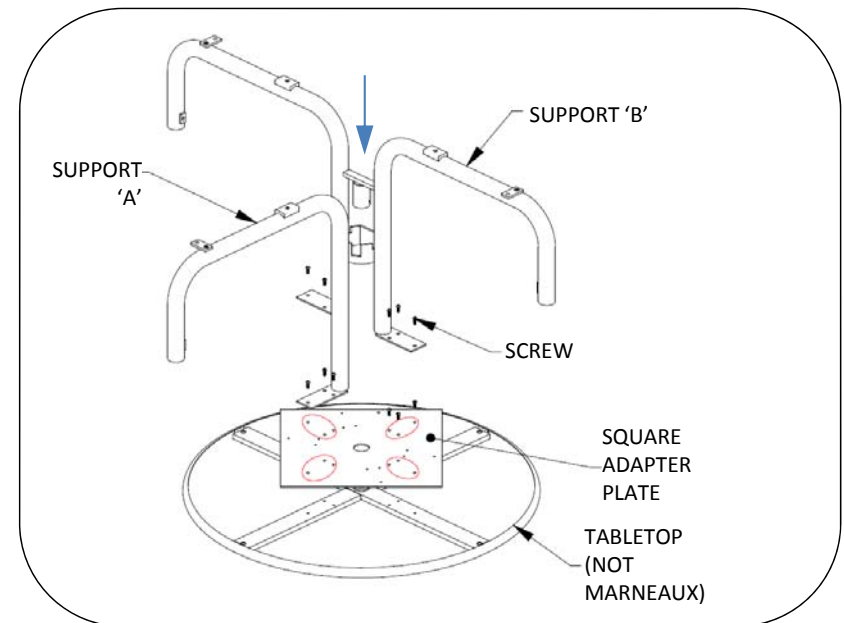
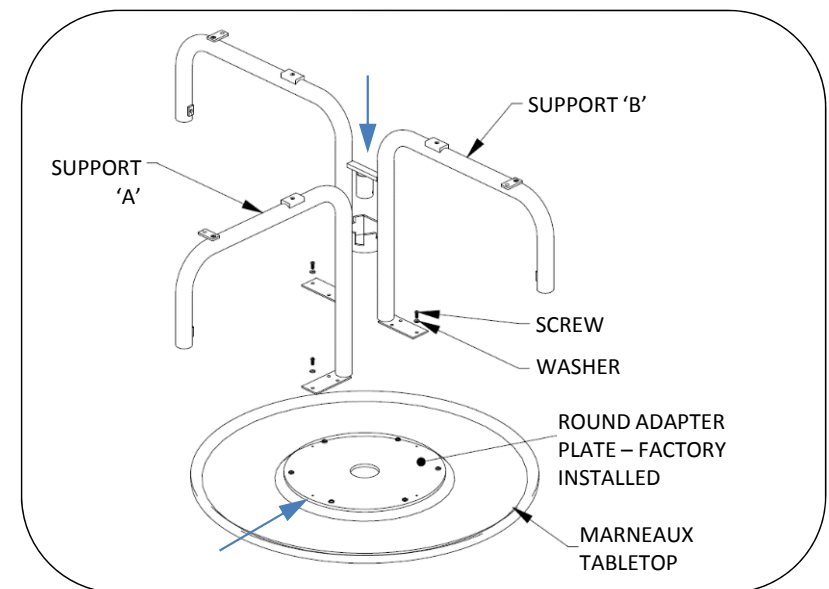

Fig. 1 – 3 Seat table to support install (not Marneaux)
Fig. 2 – 3 Seat table to support install (Marneaux tabletop)
4. Place table support “A” (has 5” ring at center) upside down on table top and align holes, see Fig 1, 3, 5 or 8.
- Catena/Steelhead tables include (12) 1/4-20 x 3/4” Phillips truss head tapping screws
- Marneaux® includes (4) 1/4-20 x 3/4” Phillips pan head machine screws and washers. One screw required at the outer hole in each plate.
- Square wood tabletop includes (12) 1/4-20 x 1” Phillips pan head machine screws.
6. Hold table support “B” upside down and carefully lower it over support “A” so bar on “B” fits into notch on “A”. Loosely fasten support “B” to table top, see Fig 2, 4 6 or 9